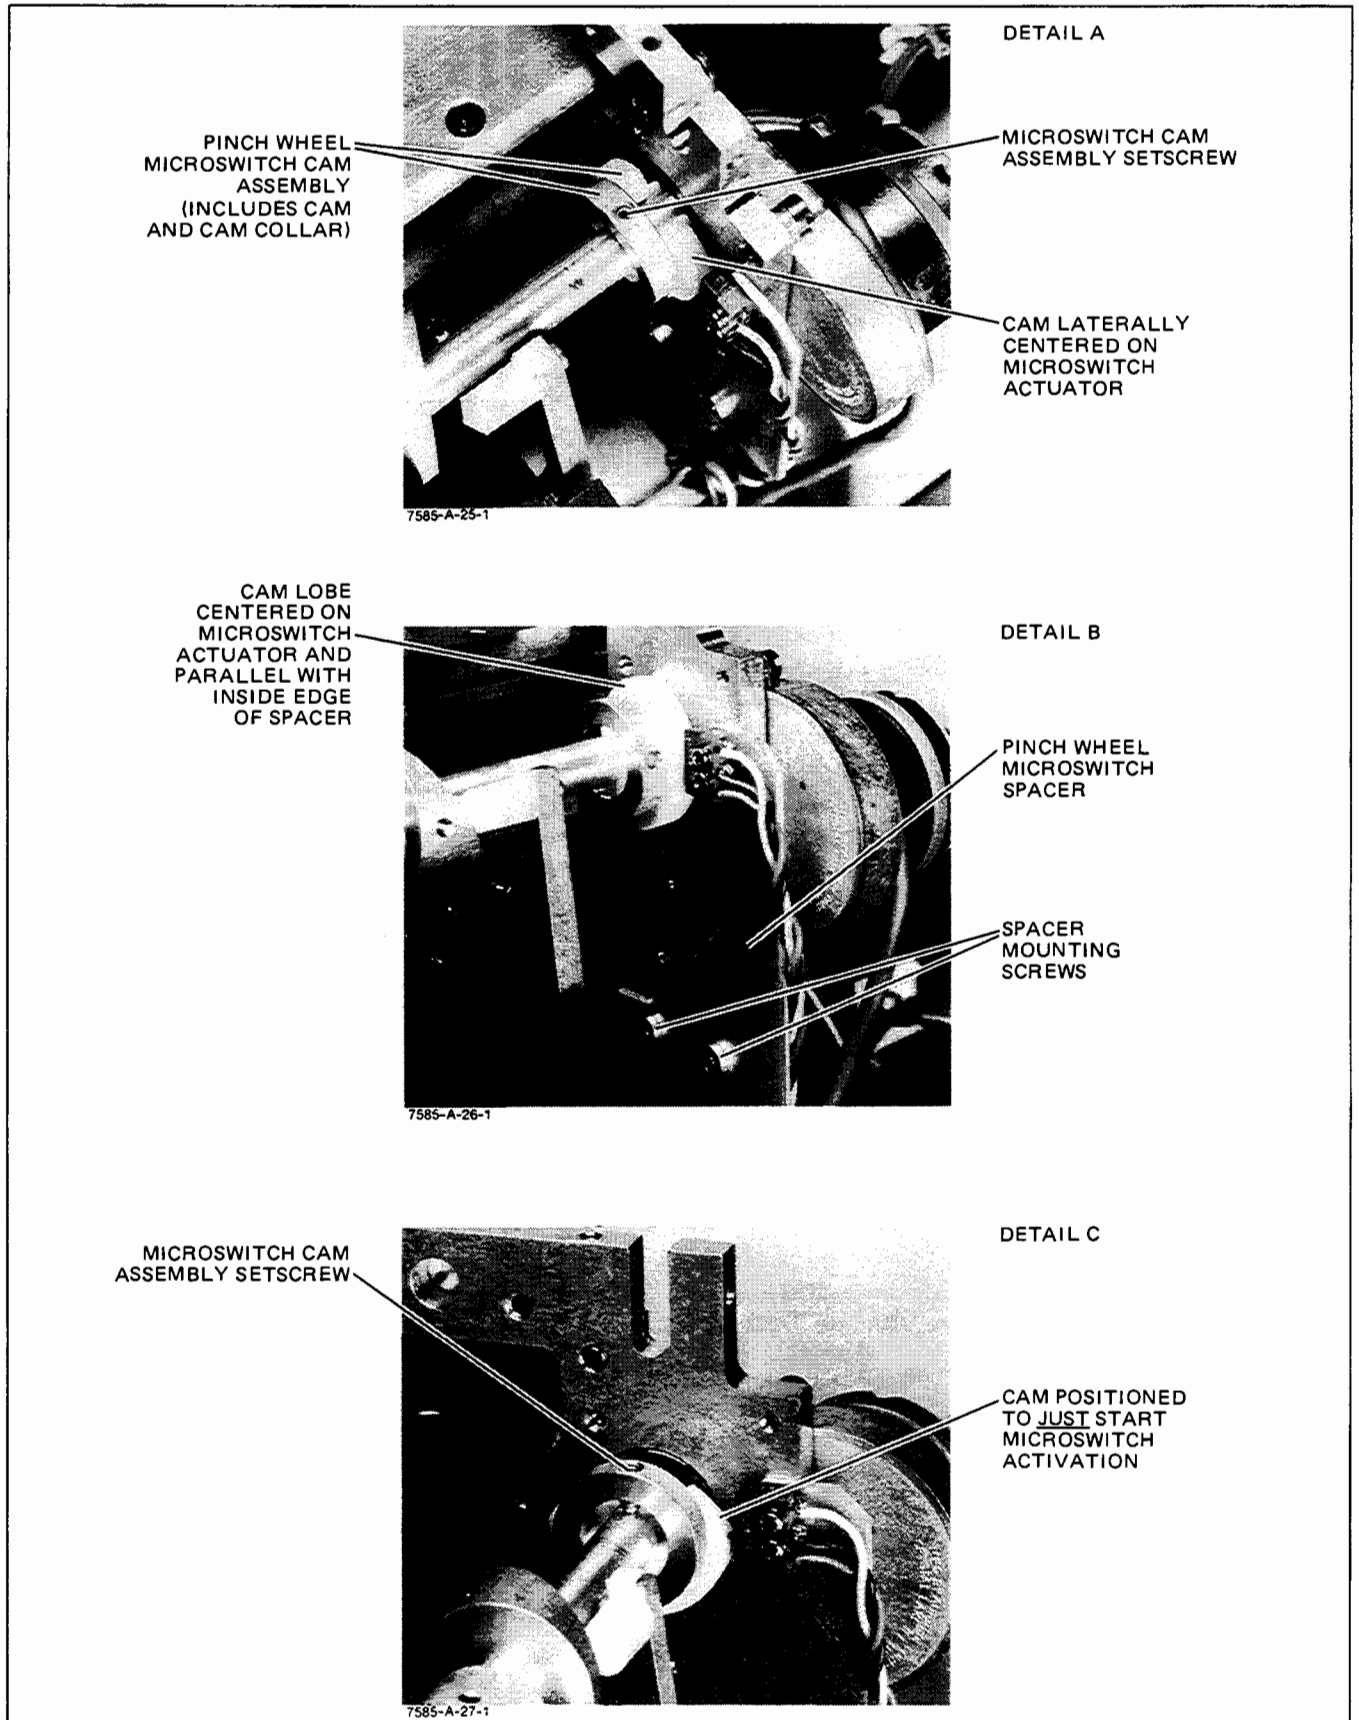

Figure 3-18. Pinch Wheel Adjustment
- d. Using a 1/16 inch Allen wrench, loosen the pinch wheel microswitch cam assembly setscrew until the cam assembly is *just* free to rotate. See Figure 3-18, Detail A.
- e. Loosen the two pinch wheel microswitch spacer mounting screws until the spacer is *just* free to move. See Figure 3-18, Detail B.
- f. While pressing the spacer down and flush against the sideplate, axially position the cam assembly such that the microswitch actuator is centered on the cam. See Figure 3-18, Detail A. Tighten the cam assembly setscrew.
- g. Manually rotate the pinch wheel camshaft until the pinch wheel microswitch cam lobe is approximately centered facing the switch and in a line parallel to the near edge of the microswitch spacer. See Figure 3-18, Detail B.
- l. Rotate the cam assembly until the setscrew is positioned at the top of the camshaft and facing straight up. Position the cam assembly such that the microswitch is *just* ready to activate. Tighten the cam assembly setscrew. See Figure 3-18, Detail C.